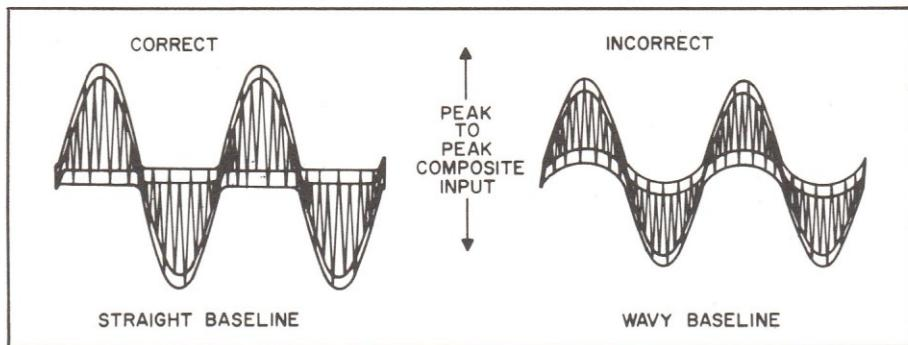

Figure 1. Composite Input To Multiplex Decoder.
- (1) Connect RF output of multiplex generator to the FM NORM antenna terminals. Set TUNING dial pointer to RF frequency of multiplex generator.
- (2) Connect output of audio generator, set for 1 kHz (kc), to the external modulation input of multiplex generator and to the external sync input of an oscilloscope. Connect the vertical input of the scope to pin 4B on the multiplex board and adjust the output of the multiplex generator for 1.4 volts peak-to-peak composite multiplex input (see Figure 1).
- (3) Ground pin 4C on the multiplex board to the chassis.
- (4) Follow procedures given in Table 1 below.
- (5) After alignment is complete, disconnect pin 4C from the chassis.
- (1) Connect output of audio generator, set for 1 kHz (kc), to the external modulation input of multiplex generator and to the external sync input of an oscilloscope. Connect the vertical input of the scope to the composite output of the multiplex generator and adjust the output of the multiplex generator for 2 volts peak-to-peak composite multiplex output (see Figure 1).
- (2) Disconnect the lead going to pin 4B on the multiplex board. Connect the output of the multiplex generator through a 15K ohm resistor to pin 4B on the multiplex board.
- (5) After alignment is complete, disconnect multiplex generator and resistor, and reconnect lead going to pin 4B on the multiplex board. Disconnect pin 4C from the chassis.
(2) Connect an FM generator to the FM NORM antenna terminals. Use a 120-ohm composition resistor in series with each lead from the generator (see Figure 1).
(3) Connect a scope and an AC VTVM to either the L or R RCDR OUT jack.
(4) Set FM generator frequency and TUNING dial pointer to 90 kHz (Mc). Modulate generator with 400 Hz (cps) as ± 75 kHz (kc) deviation. Use as low a generator output as possible.
(5) Align FM oscillator coil (L504) core first—then align the FM RF coil (L502) and the FM mixer coil (L503) cores for maximum reading on AC VTVM and maximum waveform amplitude and symmetry.
(6) Set AM generator frequency and TUNING dial pointer to 100 kHz (Mc).
(7) Align FM oscillator trimmer (C507) first—then adjust the FM IF trimmer (C503) and the mixer trimmer (C508) for maximum reading on AC VTVM and maximum waveform amplitude and symmetry.
(8) Repeat alignment several times until accurate dial cali-